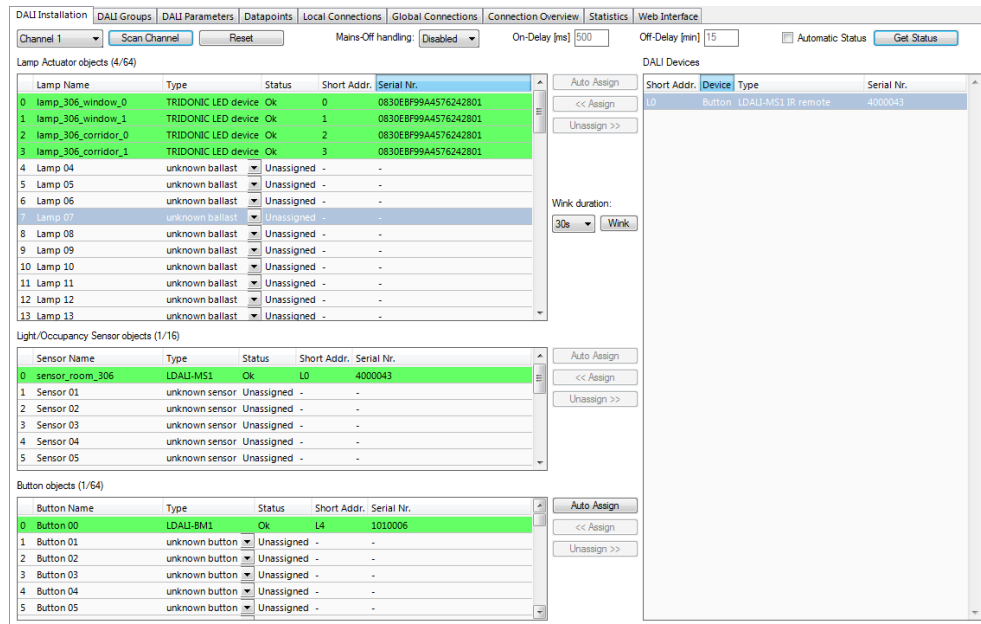

Figure 81: LINX Configurator software, After Configuration Download.
- After the download is complete, go back to the DALI Installation tab and press the **Get Status** button. Now the assigned DALI devices are displayed on a green background (see Figure 81). The green background colour indicates that the communication with the device is OK. If there is a communication error, the device will be displayed with a red background colour.